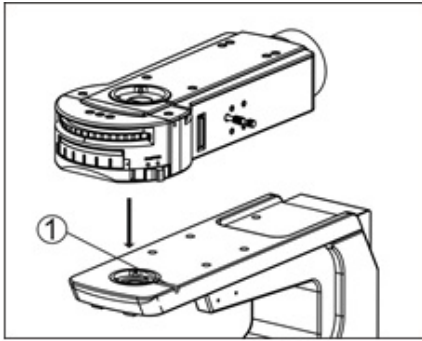

Fig. 7
4.2.5. Installing the Reflected Light Module (Fig. 7)